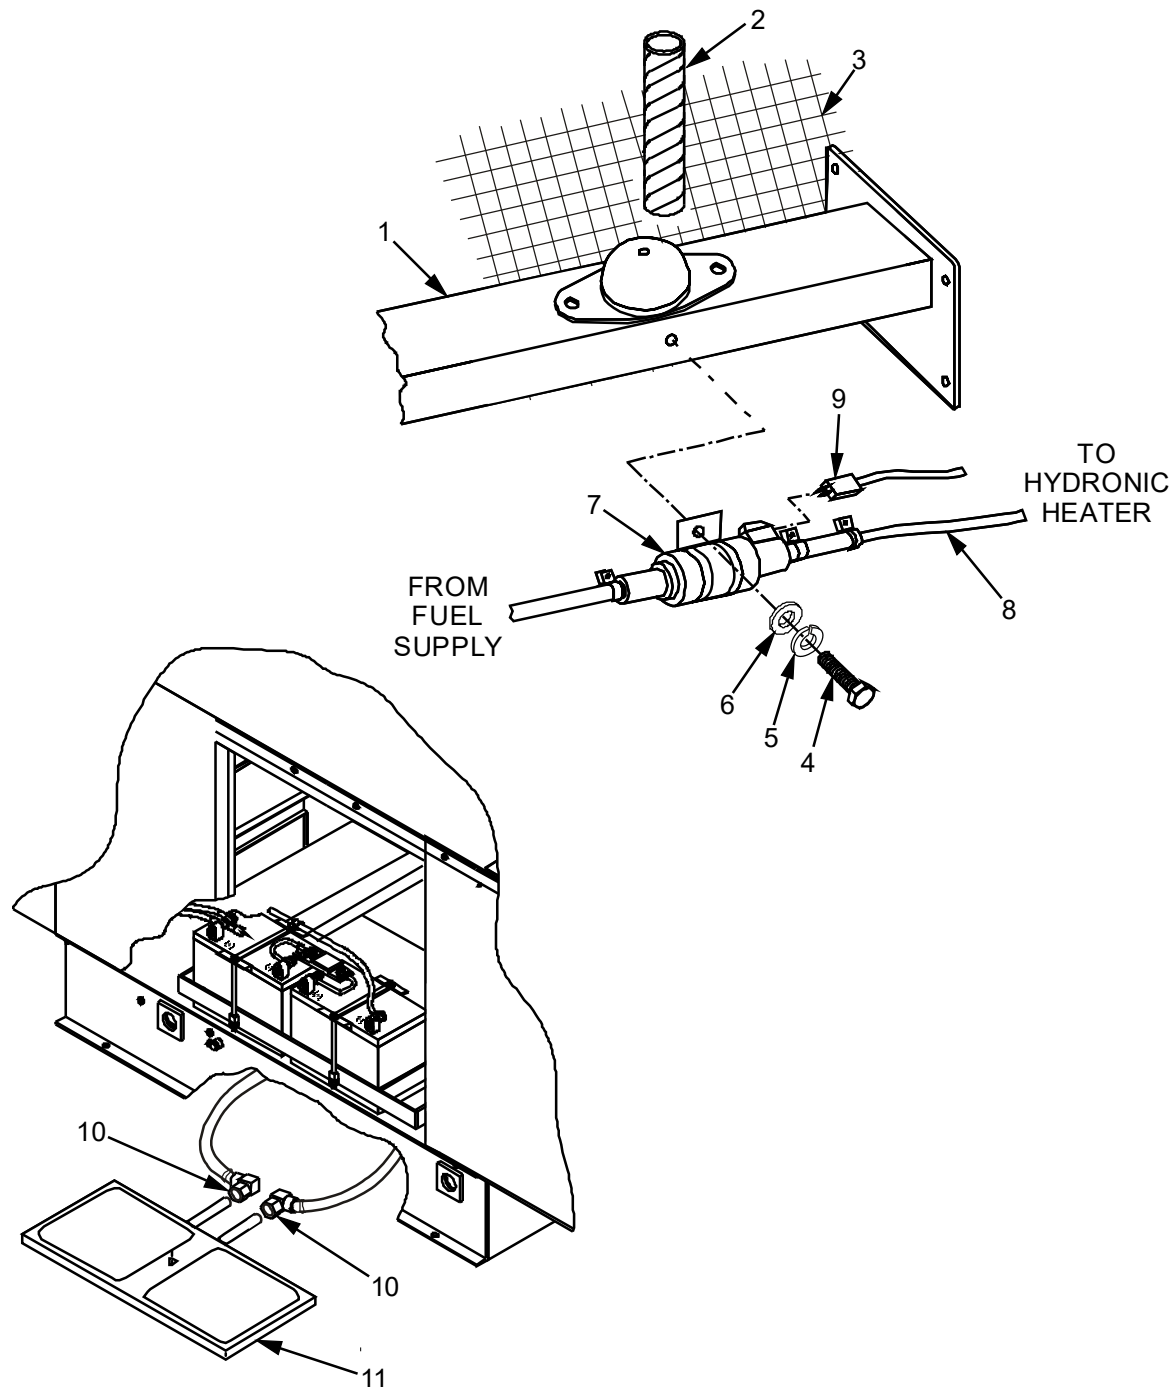

Figure 6. Engine Block Heater and Battery Warming Plate Connections - Replace.
1. Loosen hose clamp on engine block heater fuel line (Figure 6, Item 8) at the engine block heater and disconnect fuel line. Place fuel line into spill bucket (WP 0055).
2. Disconnect power connection (Figure 6, Item 9) from engine block heater fuel pump (Figure 6, Item 7). Follow wiring and remove any strap ties/cable clamps securing wiring.
3. Remove and retain bolt (Figure 6, Item 4) and washers (Figure 6, Items 4 and 5) that secures engine block heater fuel pump (Figure 6, Item 7) to I-beam (Figure 6, Item 1).
4. Remove and retain bolt (Figure 6, Item 2) and washer (Figure 6, Item 3) that secures engine block heater exhaust line clamp (Figure 6, Item 5) to I-beam (Figure 6, Item 1).
1. Disconnect input and output hoses (Figure 6, Items 11) from battery warming plate (Figure 6, Item 12). Place input and output hoses (Figure 6, Items 11) into spill bucket (WP 0056).
2. Follow input and output hoses (Figure 6, Items 11) around engine and remove any strap ties/cable clamps securing hoses.
1. Connect engine block heater fuel line (Figure 6, Item 9) to engine block heater and secure with hose clamp (WP 0066).
2. Secure engine block heater exhaust line (Figure 6, Item 4) to I-beam (Figure 6, Item 1) with clamp (Figure 6, Item 5), bolt (Figure 6, Item 2) and washer (Figure 6, Item 3).
3. Connect power connection (Figure 6, Item 10) to engine block heater fuel pump (Figure 6, Item 8). Follow wiring and secure with strap ties/cable clamps as required.
4. Secure engine block heater fuel pump (Figure 6, Item 8) to I-beam (Figure 6, Item 1) with bolt (Figure 6, Item 6) and washer (Figure 6, Item 7).
1. Connect input and output hoses (Figure 6, Items 11) to battery warming plate (Figure 6, Item 12) and tighten (WP 0056).
2. Follow input and output hoses (Figure 6, Items 11) around engine and secure with strap ties/cable clamps.